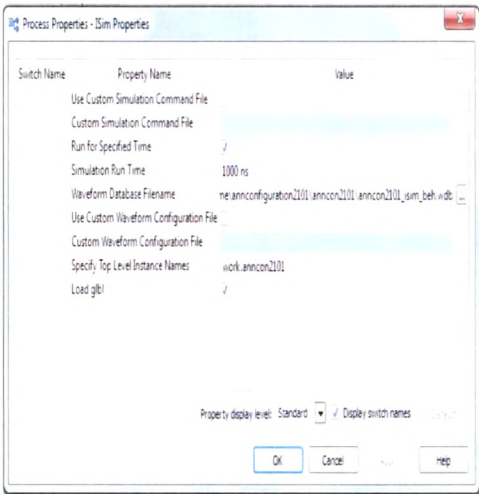

Figure A.6: ISim Properties Dialog Box
- 2. Right-click **Simulate Behavioral Model** under the ISim Simulator process and select **Properties**. The ISim Properties dialog box displays (Refer to Figure A.6).
- 3. In the ISim Properties dialog box, uncheck the property **Run for Specified Time**, and click **OK**.(Refer to Figure A.6)